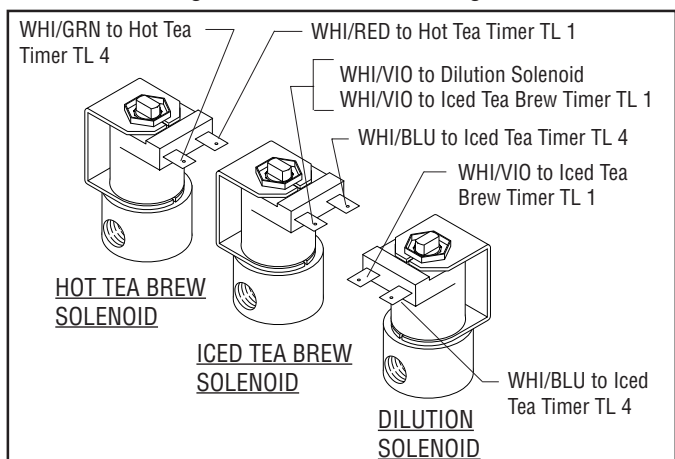

FIG. 5 SOLENOID VALVE TERMINALS
10. Refer to Fig. 5 when reconnecting the wires.